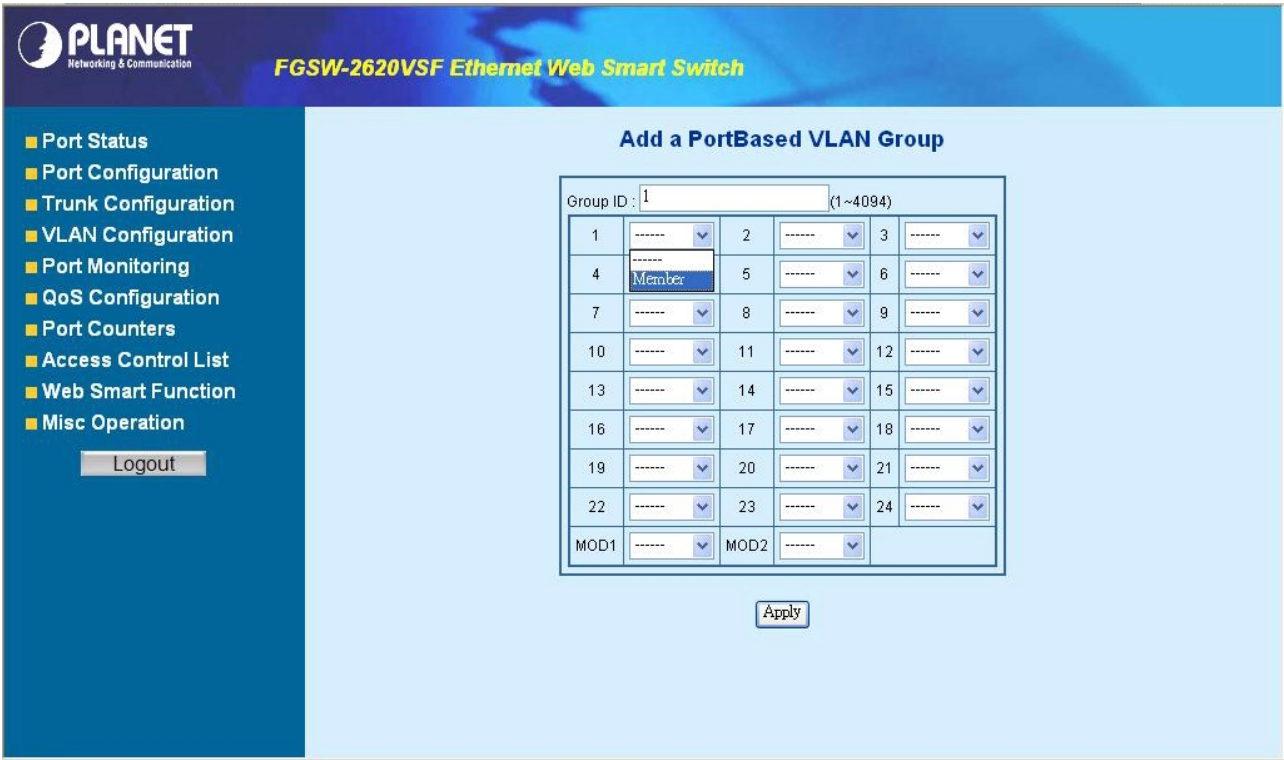

Figure 4-14 Port-based VLAN Setting Web Page screen
2. Select specific port as member port and the screen in Figure 4-14 appears.